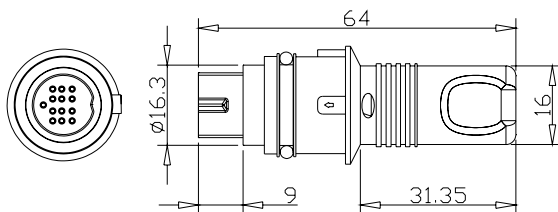

Figure 14: DMX termination plug
6. See Figure 14. When all groups of fixtures are connected correctly, insert a Martin 13-pin DIN DMX Termination Plug in the output connector of the last fixture of each separate chain of fixtures. One plug is supplied with each Tripix Power or Tripix Power IP66. Additional plugs can be ordered from Martin (P/N 91611336).